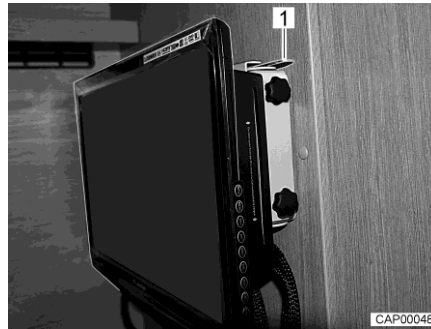
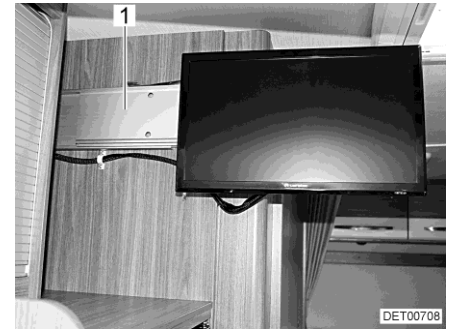

Fig. 79 Flat screen in the driving position
Fig. 80 Flat screen in the television position
- Release the catch spring (Fig. 79,1).
- Push the flat screen horizontally into the holder (Fig. 80,1) as far as it will go. The catch spring (Fig. 79,1) engages audibly.